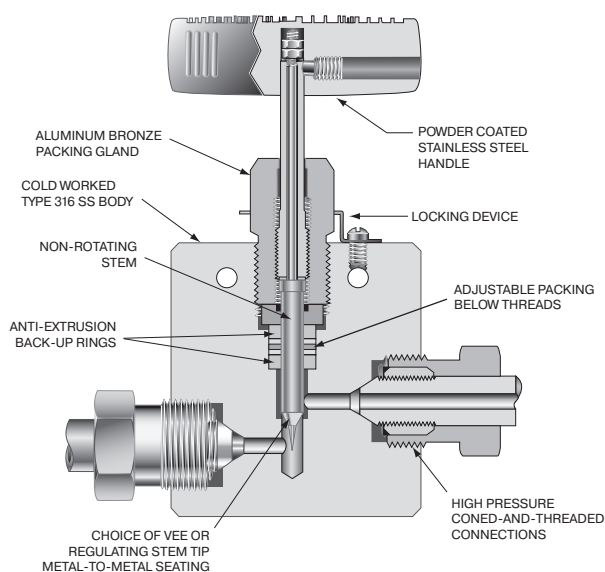
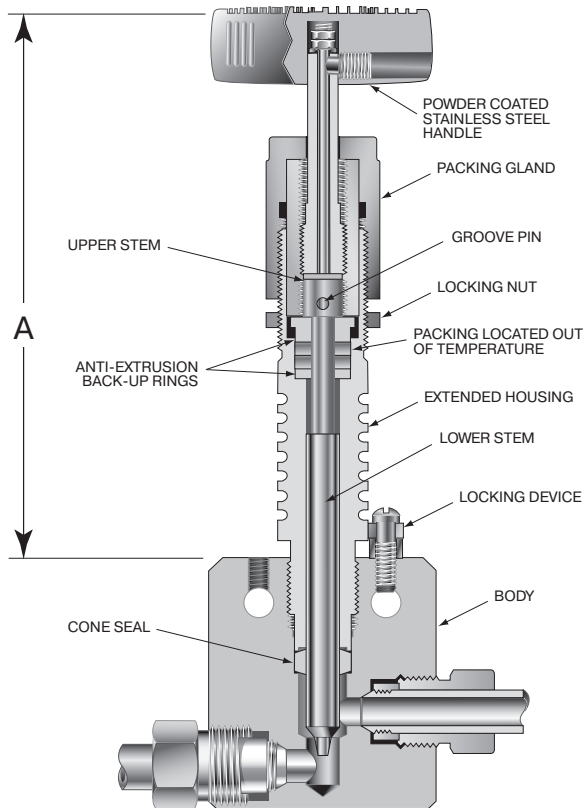
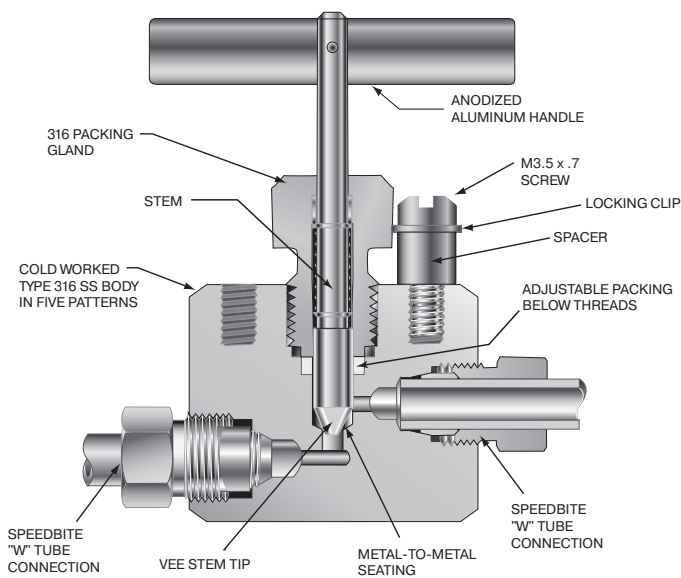

Figure 2:
Figure 4:
Figure 5:
5. Autoclave Engineers manual valves have three different type of stems; one piece non-rotating (Figure 2), two piece pinned non-rotating (Figure 4) and rotating (Figure 5). Follow steps 6-9 for one piece non-rotating stems, steps 10-11 for two piece pinned non-rotating stems and step 12 for rotating stems.